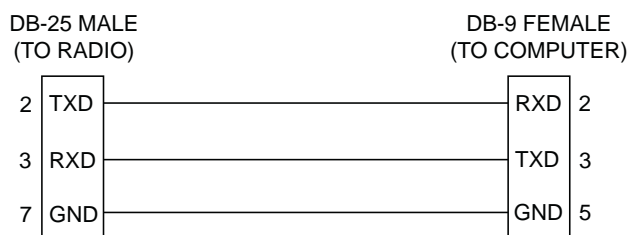

Figure 15. DB-25 to DB-9 Adapter Cable
1. Connect a PC to the radio’s DATA INTERFACE port via a DB-9 to DB-25 adapter (P/N 01-3683A01 or equivalent). If desired, an adapter cable may be constructed from scratch using the wiring diagram shown in Figure 15.